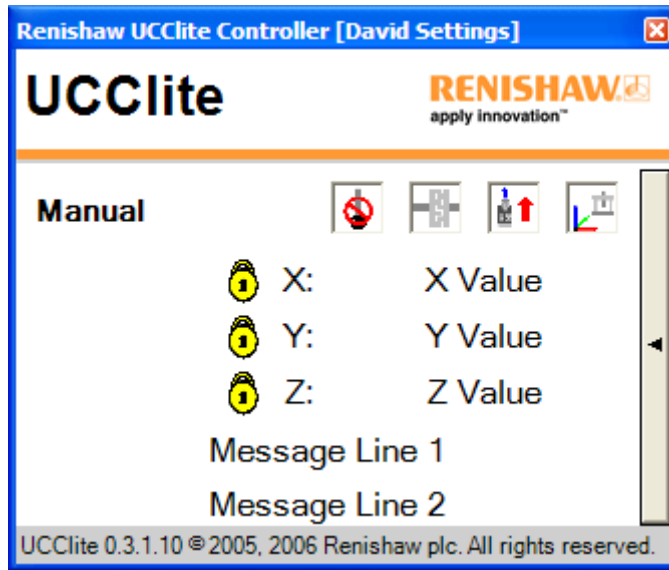
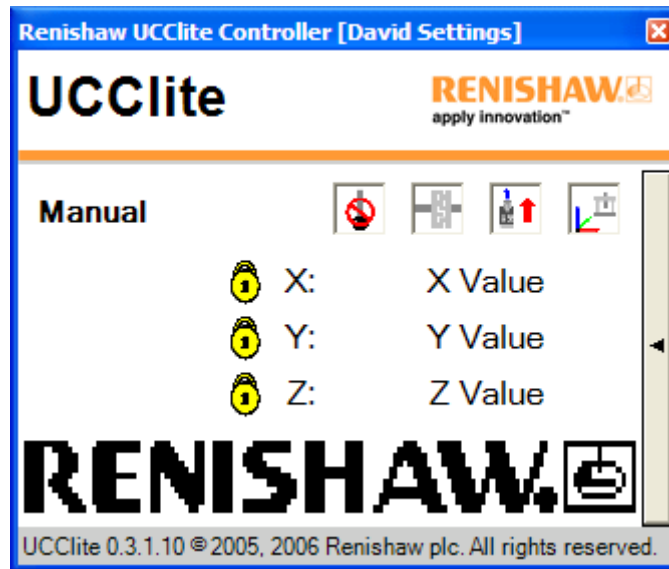

Figure 16 - Manual mode features
Figure 17 - Manual mode with graphics
- Lines 4 and 5 display up to 21 characters of messages from the user front end, as shown in figure 16, or a 256 byte pixel-based graphic as shown in figure 17.